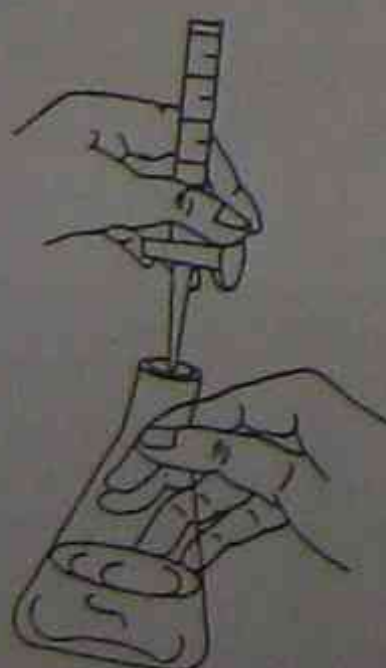

Figure 8.21 How to titrate
- To each flask carefully add 1–1.5 g of hydrated iron (II) sulfate. Reweigh the flask + iron salt and record the mass.
- Titrate flask A as shown in Figure 8.21 until a persistent, very faint pink colour indicates the end point. Record the final volume reading on the burette.
(Figure 8.21). When the end point is near, add the reagent dropwise. Carry out several titrations until they agree to within 0.1 mL.